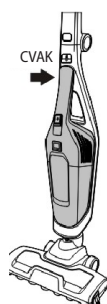

Fig. 2
3. Slide the handle into the main unit until it clicks into place (Fig. 2).